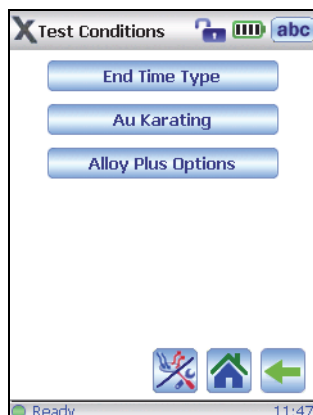

Figure 4-18 The Test Conditions screen
3. In the **Test Conditions** screen, tap **End Time Type** (see Figure 4-18 on page 78).
6. In the **Test Conditions** screen, tap **Alloy Plus Options** (see Figure 4-18 on page 78).
8. In the **Test Conditions** screen, tap the Test/Tools button () [see Figure 4-18 on page 78].
11. In the **Test Conditions** screen (see Figure 4-18 on page 78), tap the Back button () to return to the **Mode Setup** screen.
6. In the **Test Conditions** screen, tap the Test/Tools button () [see Figure 4-18 on page 78].
9. In the **Test Conditions** screen (see Figure 4-18 on page 78), tap the Back button () to return to **Mode Setup** screen.